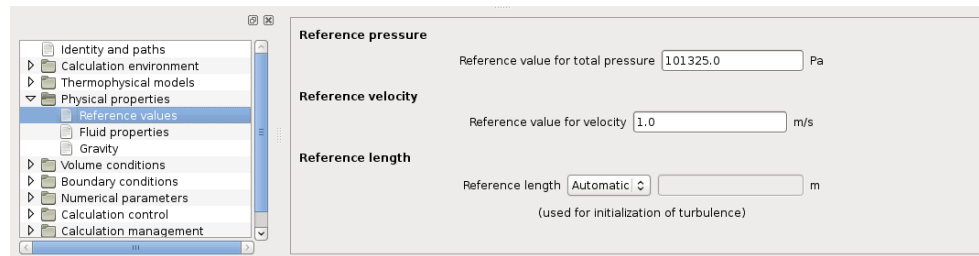
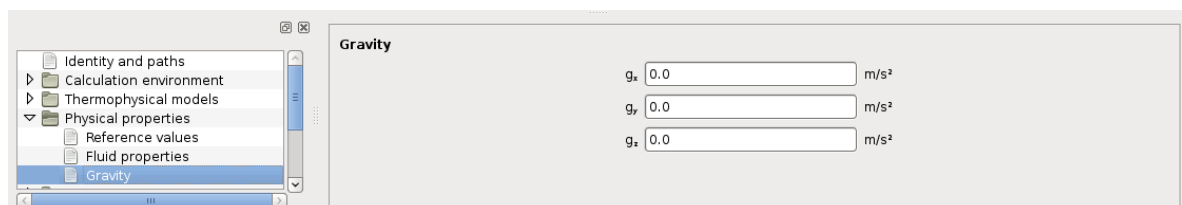

Figure 15: Setting of the reference values for pressure, velocity and length
Figure 17: Setting of the gravity
- Physical properties: reference pressure, velocity and length, fluid properties (density, viscosity, thermal conductivity, specific heat and scalar diffusivity), gravity, see Figure 15 to Figure 17. If non-constant values are used for the fluid properties, and if the GUI is not used, the `cs_user_physical_properties` file must be used, see § 6.5.1.